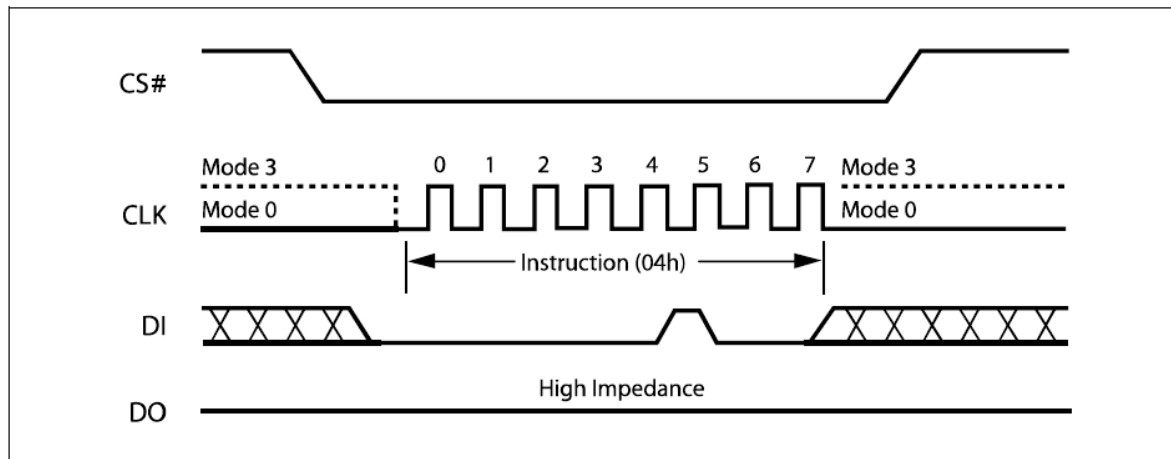

Figure 10. Write Disable Instruction Sequence Diagram
The Write Disable instruction (Figure 10) resets the Write Enable Latch (WEL) bit in the Status Register to a 0 or exit from OTP mode to normal mode. The Write Disable instruction is entered by driving Chip Select (CS#) low, shifting the instruction code “04h” into the DI pin and then driving Chip Select (CS#) high. Note that the WEL bit is automatically reset after Power-up and upon completion of the Write Status Register, Page Program, Sector Erase, Block Erase (BE) and Chip Erase instructions.